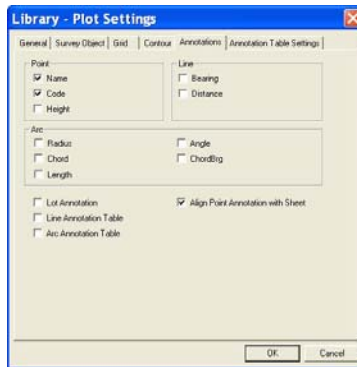

Figure 16-30. Library Plot Settings – Annotation Parameters
On the *Annotations* tab (Figure 16-30 on page 16-44), set the following parameters:
- **OK** – press to save the settings and to close the Library - Plot Settings dialog box (Figure 16-30).